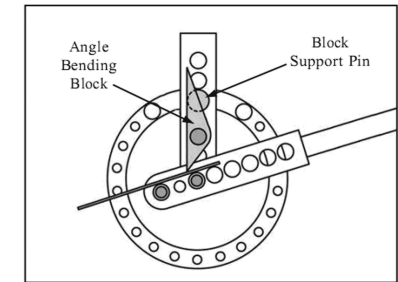

Figure 6. Basic angle bending setup.
- Mount the block support pin (13) and the angle bending block (18) onto the bending bracket (4), as shown in figure 6. Make sure the block support pin is mounted as close to the angle bending block as possible.